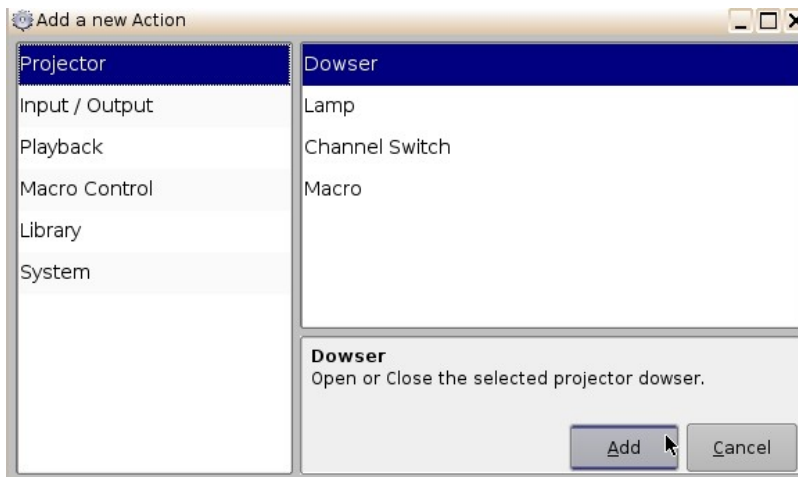

Figure 181: Add a New Action Window
- The Add a New Action window will appear (Figure 181). The Add a New Action window provides a list of available actions to be used within a Macro Automation Cue.
- To add an action to the Macro Automation Cue, click on its corresponding action button in the left side of the Add a New Action window and click the Add button (Figure 181).